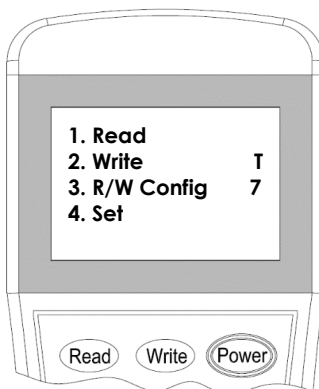

Figure 16
2. Switch-on the programmer, then press button **"Read"** or **"1"** to enter to Read mode (Figure 16). The programmer will display the configuration after few seconds. (Figure 17).